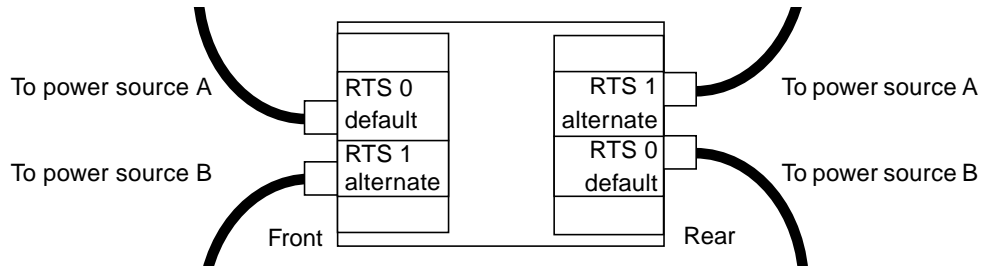

FIGURE 3-9 Two RTU Assemblies and Two Independent AC Power Sources
- In configurations with two RTU assemblies and two independent AC power sources there will be four cables to connect, two on the front, and two on the rear of the system (FIGURE 3-9).